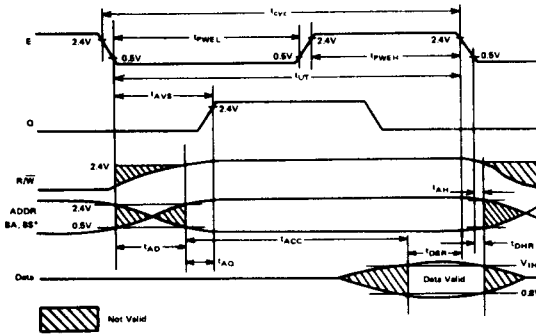

Figure 2 Read Data from Memory or Peripherals
Sixteen pins are used to output address information from the MPU onto the Address Bus. When the processor does not require the bus for a data transfer, it will output address $\overline{\text{FFFF}}_{16}$, R/W = "High", and BS = "Low"; this is a "dummy access" or VMA cycle. Addresses are valid on the rising edge of Q (see Figs. 2 and 3). All address bus drivers are made high impedance when output Bus Available (BA) is "High". Each pin will drive one Schottky TTL load or four LS TTL loads, and typically 90 pF.
This signal indicates the direction of data transfer on the data bus. A "Low" indicates that the MPU is writing data onto the data bus. R/W is made high impedance when BA is "High". R/W is valid on the rising edge of Q. Refer to Figs. 2 and 3.